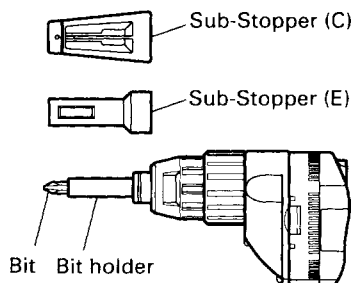

Fig. 9
3. Dismounting the bit (Fig. 9)